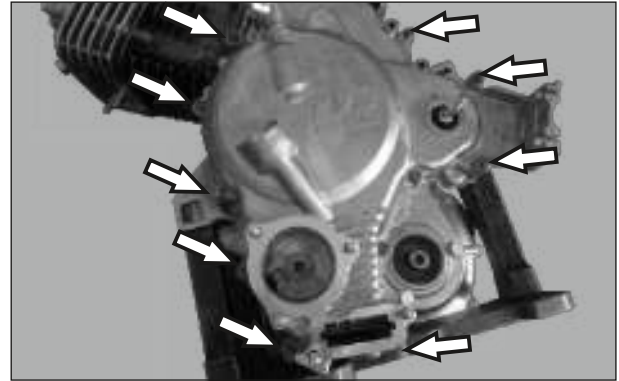

Fig. 3.16
- Loosen and remove 9 nos. hexagonal flange bolt M6x50 from Cover crank case R. (Fig. 3.16)